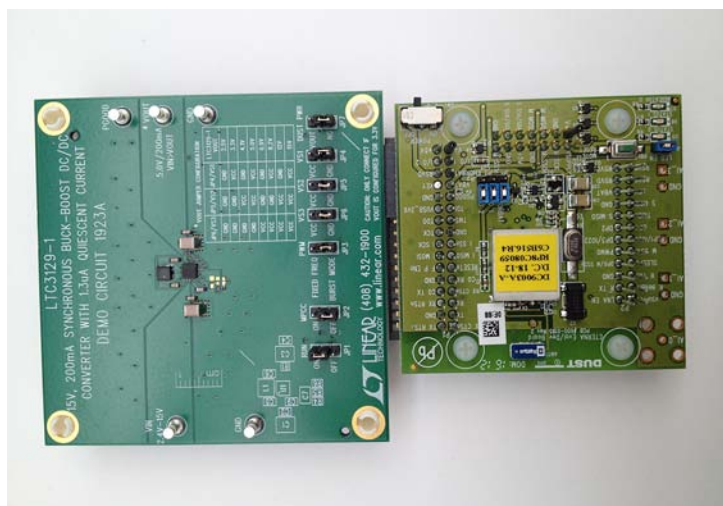

Figure 5. DC1923A Connected to DC9003A Dust Mote (Top View)
16. Once the output voltage has been set to the proper voltage and with the power supply OFF connect DC1923A to the Dust Networks mote demo board using J1. See Figures 5 and 6 for the proper connections and orientation. Move jumper JP7 to VOUT.